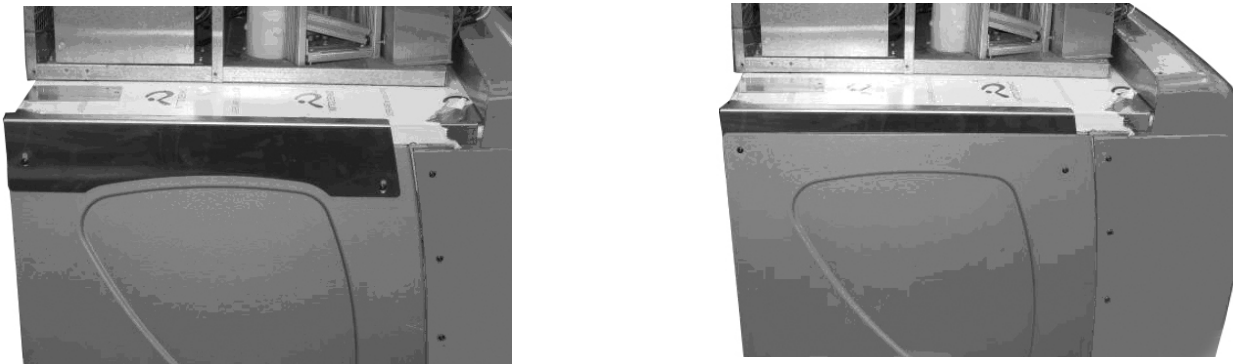

Figure 3
3. There are two options for installing the brackets, outside of the side panels or behind the side panels, as shown in Figure 3. Left side of unit is shown in Figure 3.